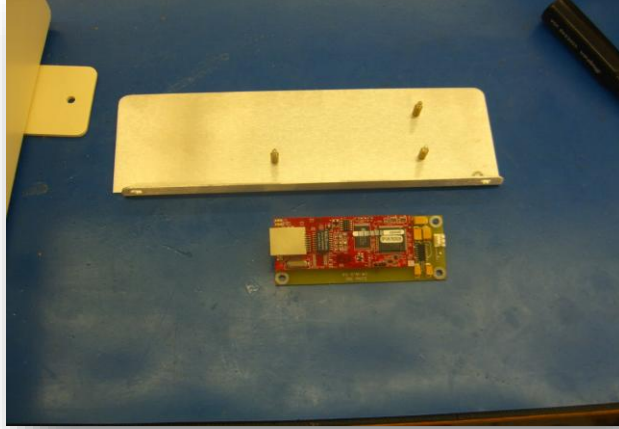

Figure 47 – Internal Rabbit Ethernet Board Removal
4. Remove the three nuts from the corners of the Ethernet board. See Figure 47.